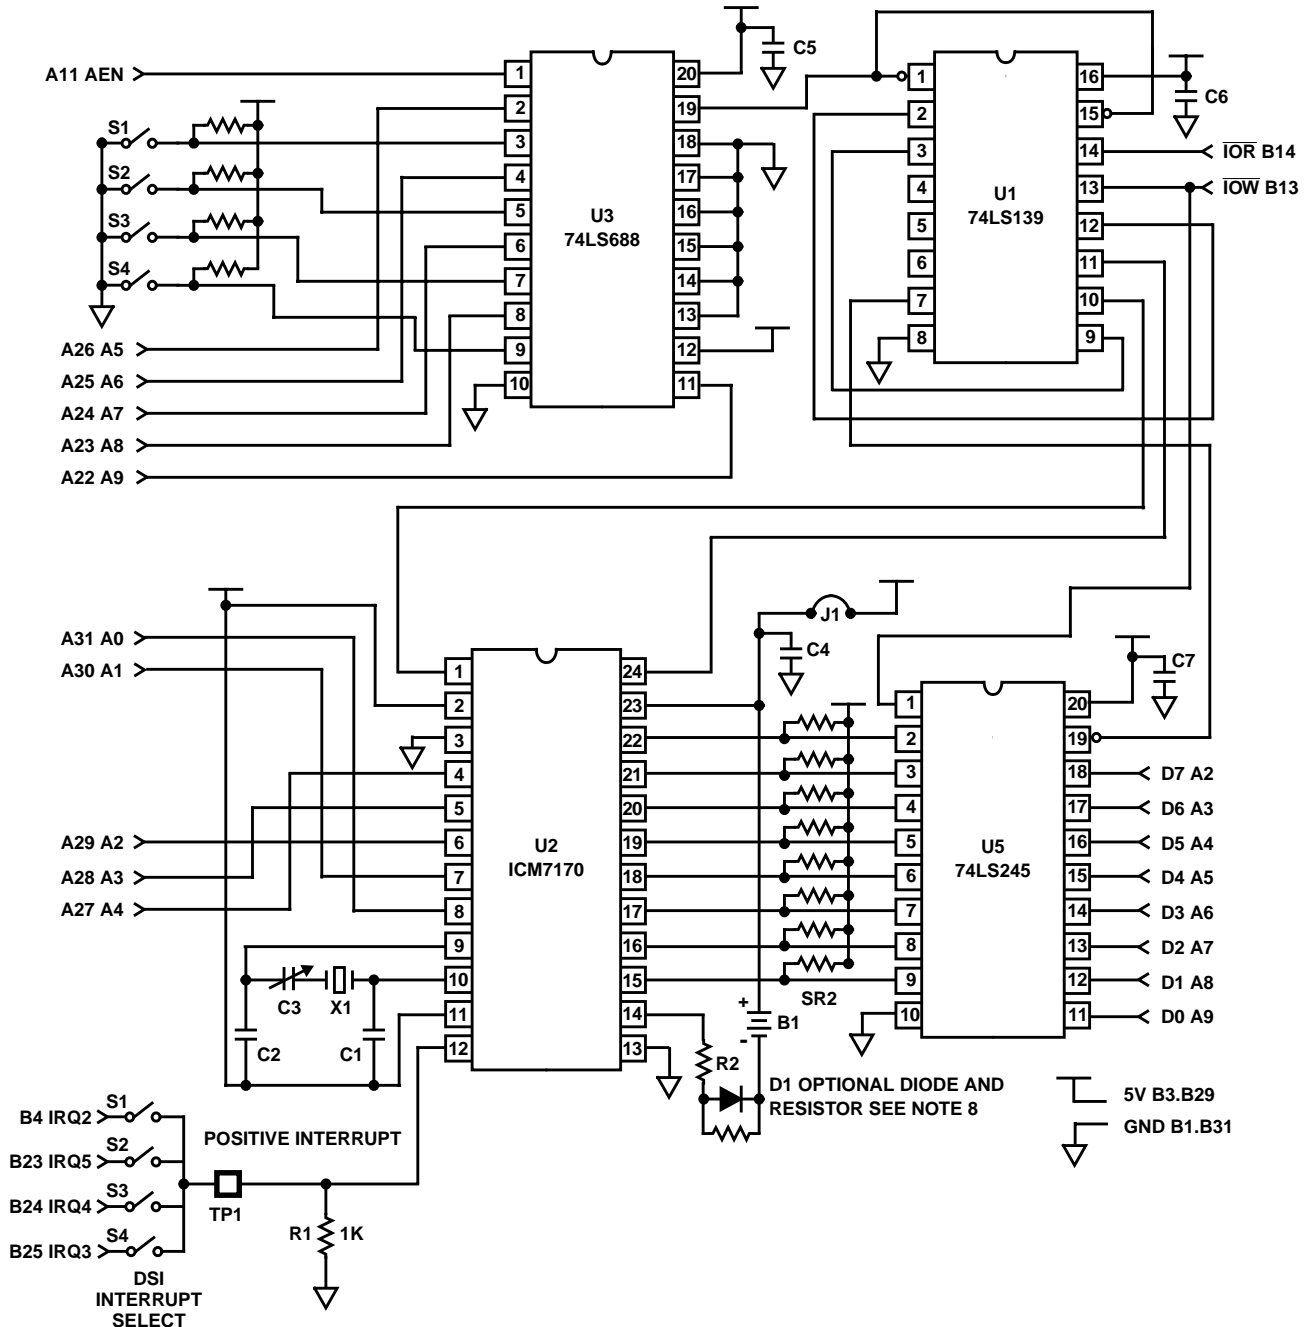

FIGURE 9. IBM PC INTERFACE FOR ICM7170Y
Figure 9 shows the schematic of a board that has been designed to plug into an IBM PC/XT (Note 1) or compatible computer. In this example \overline{CS} is permanently tied low and access to the chip is controlled by the \overline{RD} and \overline{WR} pins. These signals are generated by U1, which gates the IBM's \overline{IOR} and \overline{IOW} with a device select signal from U3, which is
8. **V_{BACKUP} DIODE** - Lithium batteries may explode if charged or if discharged at too high a rate. These conditions could occur if the battery was installed backwards or in the case of a gross component failure. A 1N914-type diode placed in series with the battery as shown in Figure 9 will prevent this from occurring. A resistor of 2M Ω or so should parallel the diode to keep the V_{BACKUP} terminal from drifting toward the V_{SS} terminal and shutting off ICM7170 I/O during normal operation.